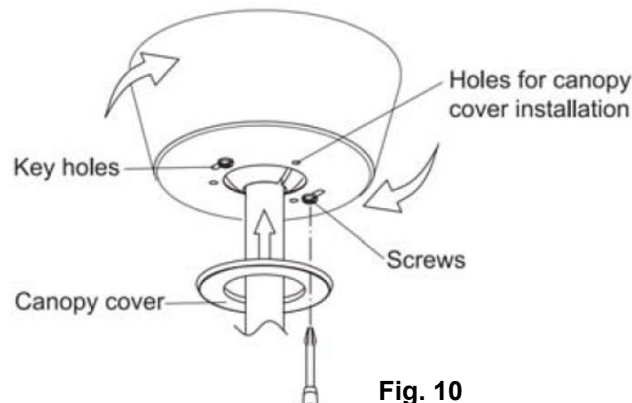

Fig. 10
- Loosen the two screws at the bottom of the mounting bracket by half a thread. (Fig.10)
- Slide the canopy up to the mounting bracket and align the key holes on the canopy with the screws on the mounting bracket. Turn the canopy until it locks into place with the narrow section of the key holes and secure it by tightening the two screws. Avoid damaging the electrical wiring prepared previously. (Fig.10)
- Attach the canopy cover onto the canopy by pushing the lugs into the holes. (Fig.10)